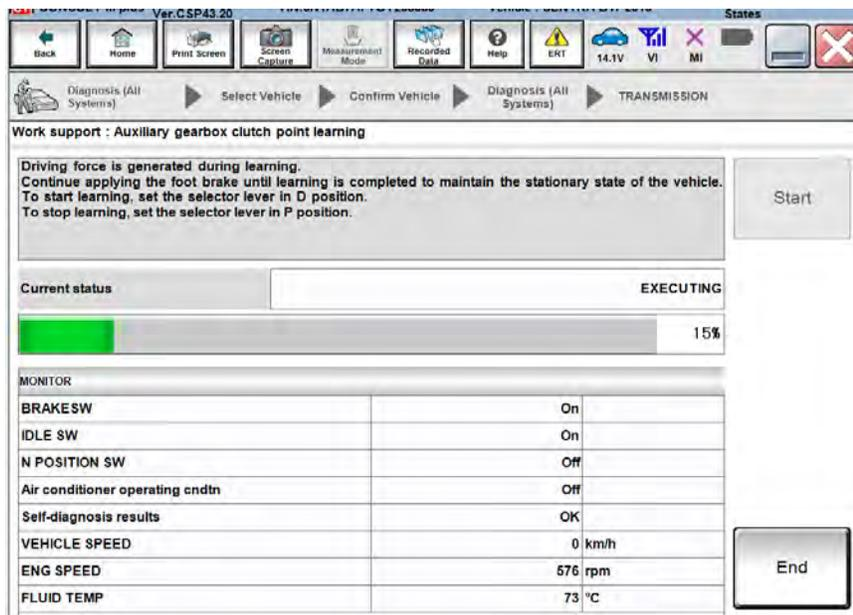

Figure 53
- Figure 53 on the next page will display after moving the shift selector to **D**.